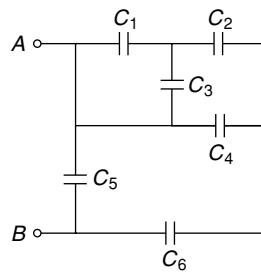

Fig. 1.47 Capacitance configuration of Ex. 1.44
1.44 Find the equivalent capacitance between *A* and *B* in Fig. 1.47. Assume the capacitances are equal to each other and having a value of $2 \mu\text{F}$ each.
We can reduce the given circuit as shown in Fig. 1.47(a).